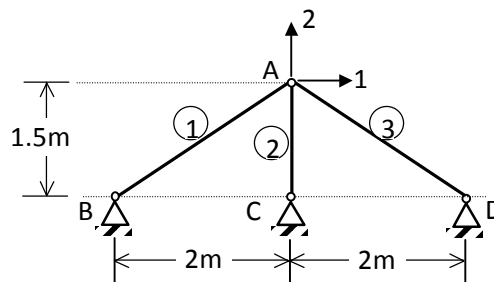

Fig. 2
2. Using the Reduced Element Stiffness method, assemble the 2×2 stiffness matrix for the plane truss in Fig. 2, assuming all bars to have equal axial rigidity EA . If the bars are force-fitted due to bar '2' being short by 5mm (fabrication error), find the joint displacements $\{D_A\}$ and the bar forces $\{N\}$. Also include the effect of the applied loads $F_1=50$ kN and $F_2=-25$ kN.